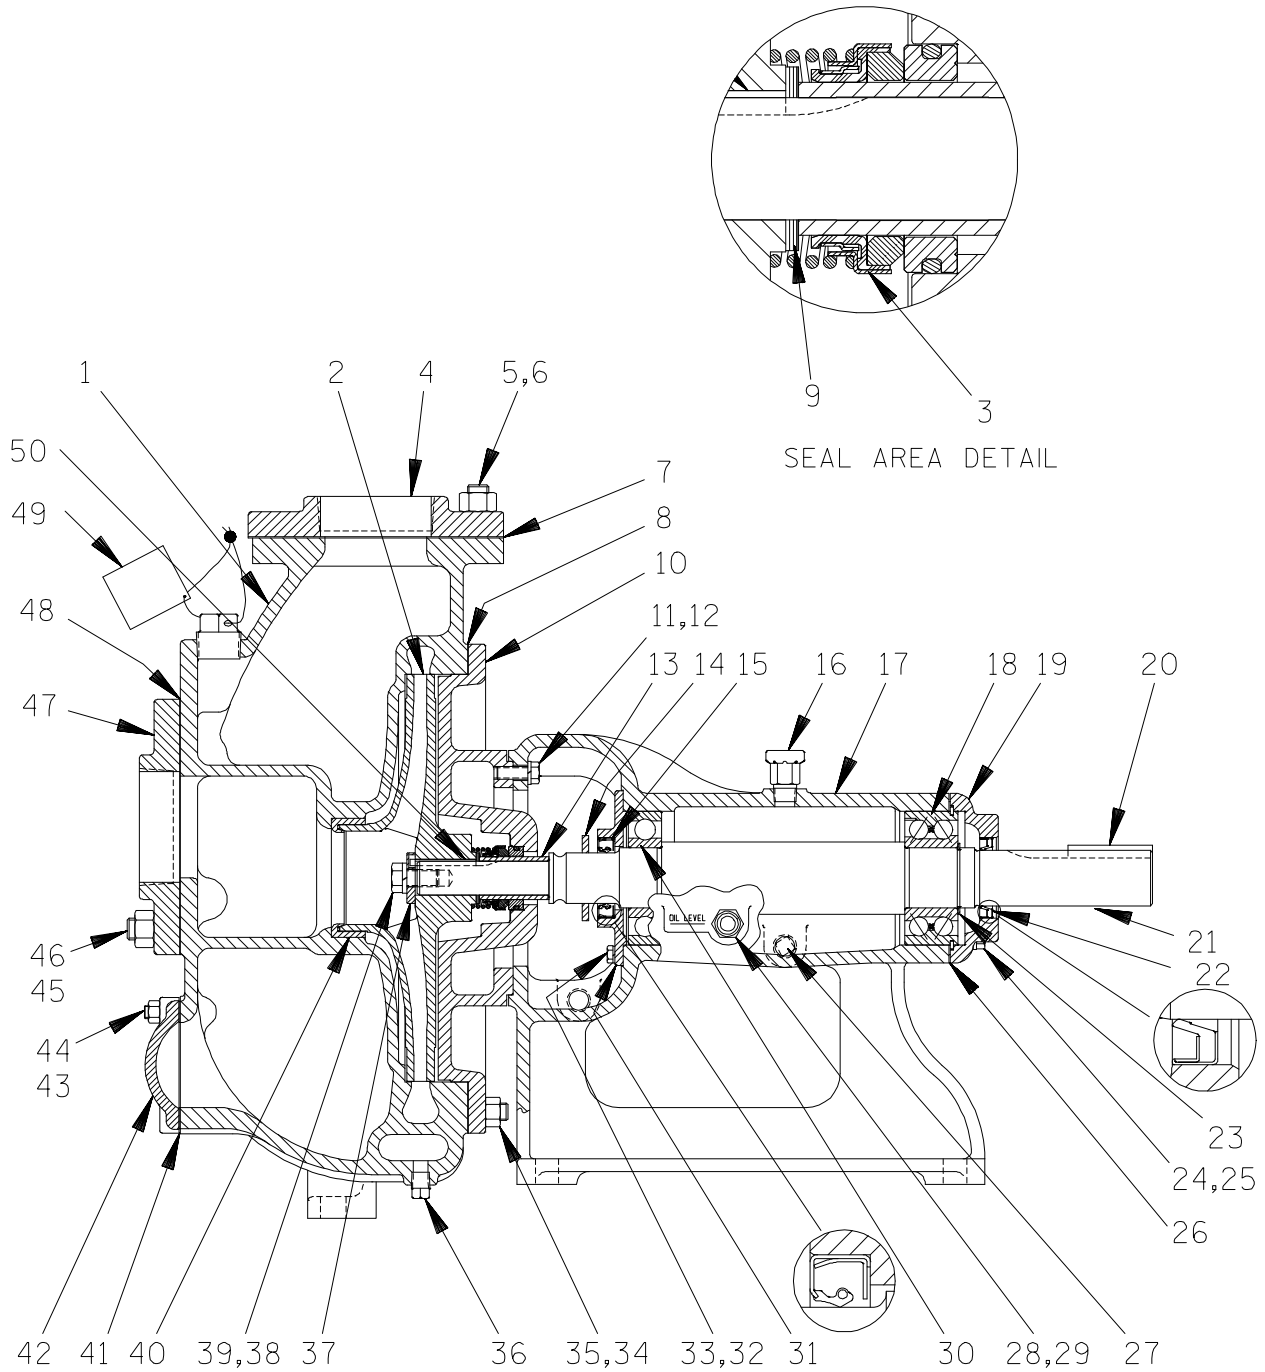

Figure 1. Pump Model 03A52-B
This pump requires little service due to its rugged, minimum-maintenance design. However, if it becomes necessary to inspect or replace the wearing parts, follow these instructions which are keyed to the sectional views (see Figure 1) and the accompanying parts list.
(Figures 1 and 2)
Position the oil seal (15) in the bearing cap (31) with the lip positioned as shown in Figure 1. Press the oil seal into the bearing cap until the face is **just flush** with the interior surface of the bearing cap.